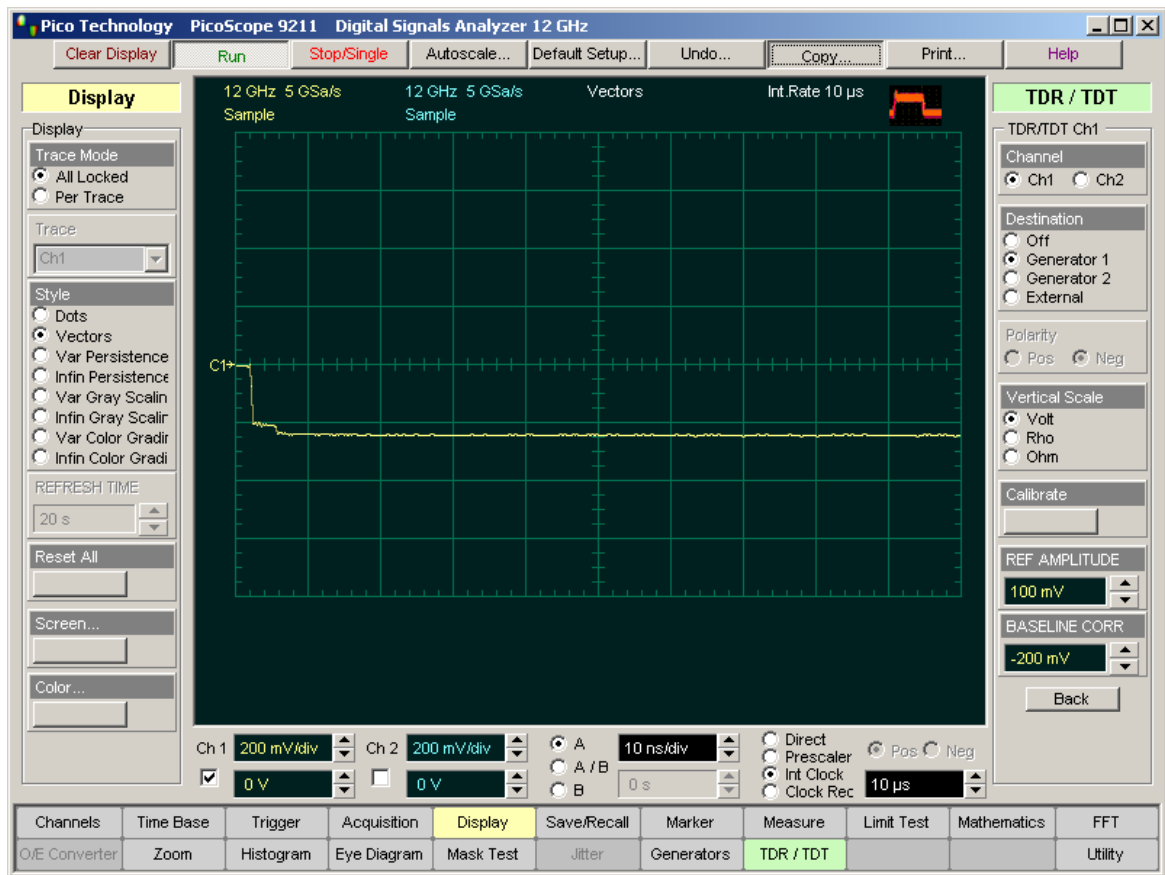

Figure 5
11. Connect a 6-dB attenuator to the Reference Plane. This attenuator should have approximately 85 ohm resistance when it is unterminated. See Figure 5. Notice that the reflected step has similar slope to the incident step, but its amplitude is much less than when it was reflected from the open Reference Plane.